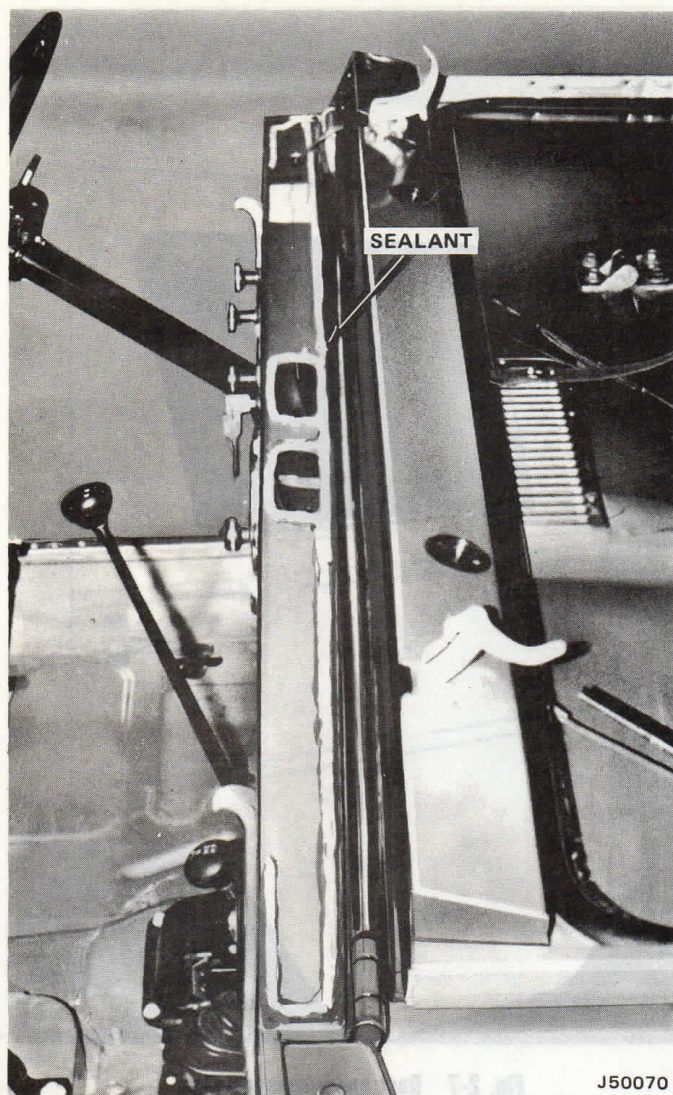

Fig. 2-2 Windshield Sealant Applied to Cowl Top
(1) Unlatch windshield and pivot forward to rest on hood.
(2) Apply strip sealant across top edge of cowl, positioning it along front edges of air duct openings (fig. 2-2). Apply sealant around edges of both openings.
(3) Return windshields to upright position, but do not latch.
(4) Loosen but do not remove screws attaching windshield hinges to body.